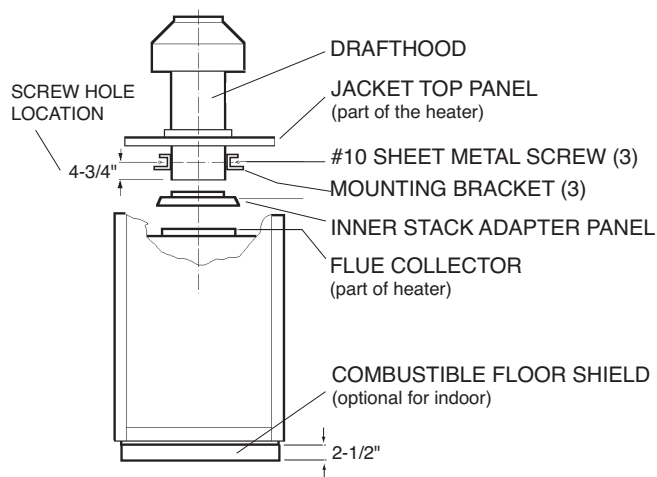

Fig. 9: Vent Terminal/Indoor Stack Installation
1. Remove the louvered jacket top by removing four (4) #10 flat head screws.
6. Attach the three (3) mounting brackets to the stack using the screws provided and the holes that are pre-drilled in the stack. Make sure the brackets are positioned with the flange near the top side of the stack (see Fig. 9). Caution must be taken not to over tighten and strip the screw threads.
7. Turn the assembled stack and jacket top, right side up. The jacket top will be trapped between the brackets and the top of the stack. Place the stack over the inner adapter panel flanged hole and lower the louvered jacket top panel back into its original position. Reinstall the four (4) green #10 flat head screws removed in Step 1 above.